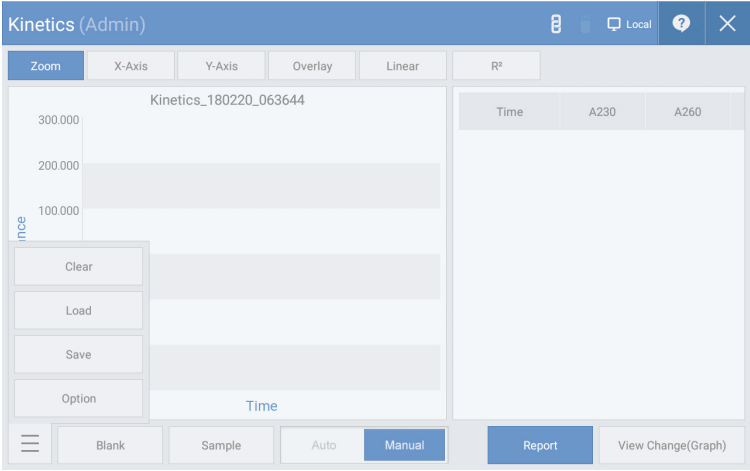

Fig.3.5
1. Click the “Settings” button in [Fig. 3.5] to set the measurement environment.
2. Load the blank sample and click “Blank” shown in [Fig. 3.5] to measure the zero point.
4. Load the sample and click the “Sample” button shown in [Fig. 3.5] to begin measurement.